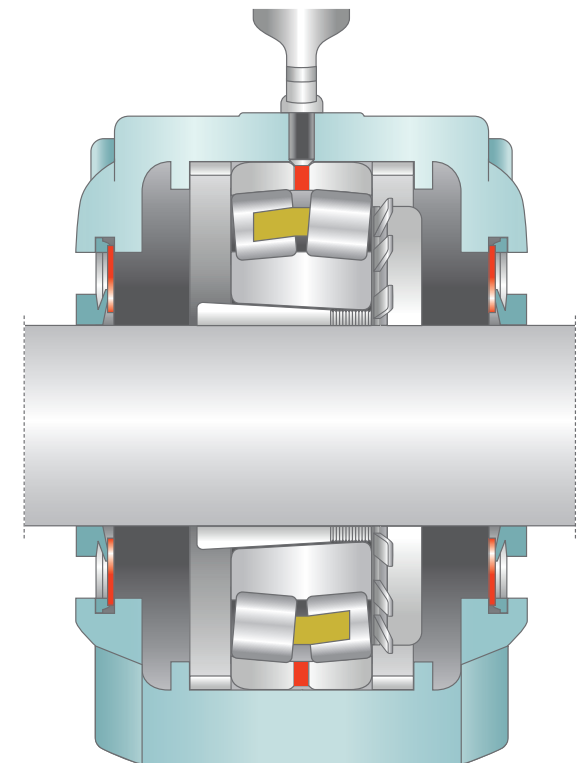

Figure 7:
- Regarding LFD bearings that are equipped with a circumferential groove with lubrication holes (suffixes W20, W26, W33...), the bearing should be provided with lubricant directly via the outer ring (**figure 7**).